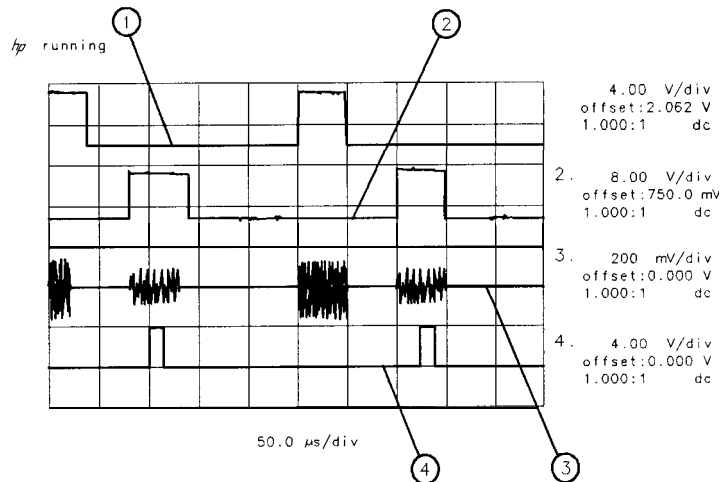

Figure 5-24. Placing the Gate Output During the Second Signal
- To view the second signal, change the gate delay so that the gate output is under the second signal. Since the second signal had a signal delay of approximately 85 μs , we set the gate delay to 85 μs plus the pulse width/2, or 110 μs . Press **[SWEEP]**, Gate Control , GATE DELAY 110 **[μs]** to set the gate delay to 110 μs . Using an oscilloscope can be helpful in placing the gate output during the pulsed signal. See Figure 5-24.
Item	Description of Items in Figure 5-24